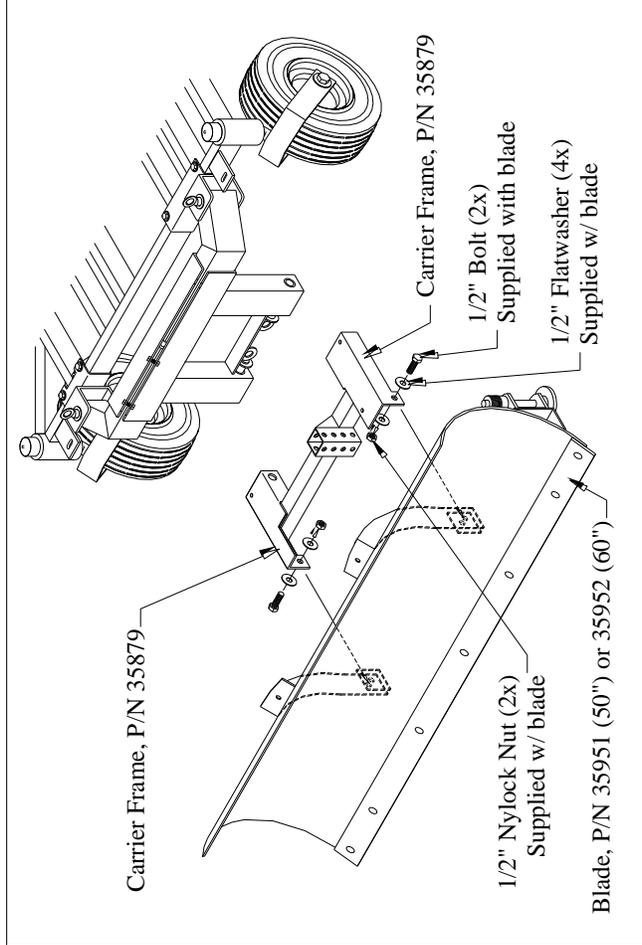

Fig. 2
2. Orient half brackets around crosstubes as illustrated and bolt together two halves using four 5/16" x 1" bolts and whizlock nuts on bottom of brackets and two 5/16" x 1" bolts on top right two mount points (as sitting on tractor) as pictured. Once again do not tighten, just snug bottom bolts. **FIG. 2**